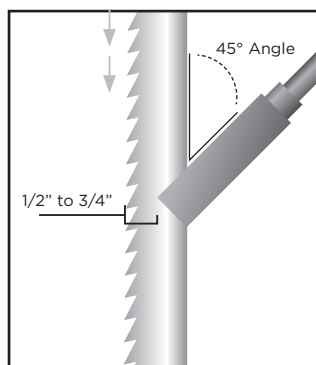

Fig. 2 - Side View of Band Saw
Nozzle placement is extremely important to effective Minimum Quantity Lubrication; they must be positioned so lubricant is applied to the cutting edge of the tool BEFORE the cut is made (**see Fig. 2**).
1. Position the nozzle over the band saw blade and attach to the leading guide arm before the cutting point (**see Fig. 2**).